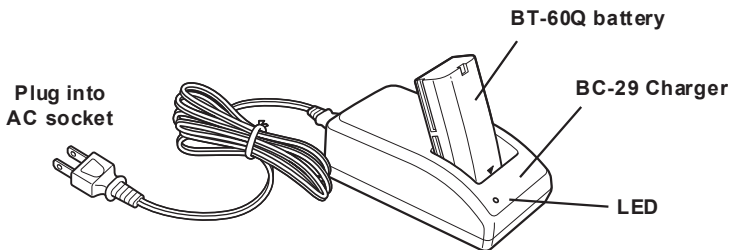

Figure 2-2. BT-60Q Battery in Charger
1. Place a BT-60Q battery in the BC-29 charger as see in Figure 2-2.